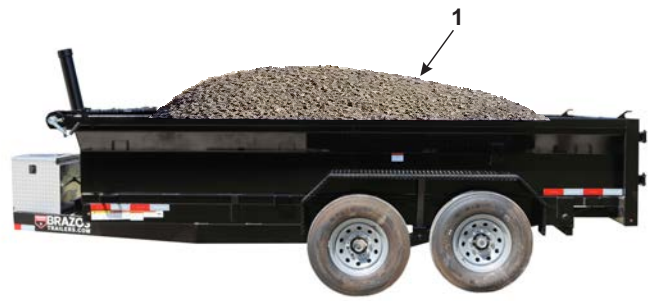

Figure 3-12 – Evenly Loaded Trailer
- g. Level (evenly distribute) the load within the trailer from front to back and from side to side (1, Figure 3-12).